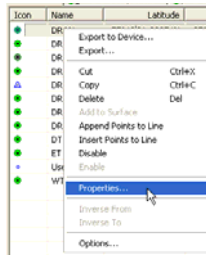

Figure 5-62. View Point Properties
1. Right-click the desired point and click **Properties** on the pop-up menu (Figure 5-62).